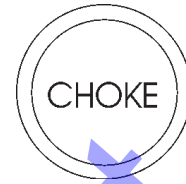

Figure 19. Throttle Control Knob
3. Pull the **choke knob** (Figure 19) outward about half way. In cold weather, start the unit with the choke in the fully closed position. In summer time or when the engine is warm, the unit can be started with the choke halfway or completely open